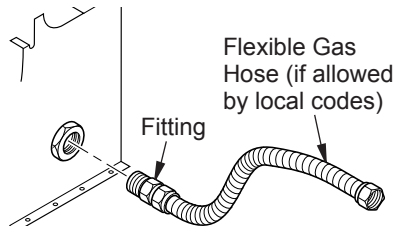

Figure 11 - Attaching Flexible Gas Hose to Heater
1. Connect approved flexible gas hose to gas control fitting in heater (see Figure 11).